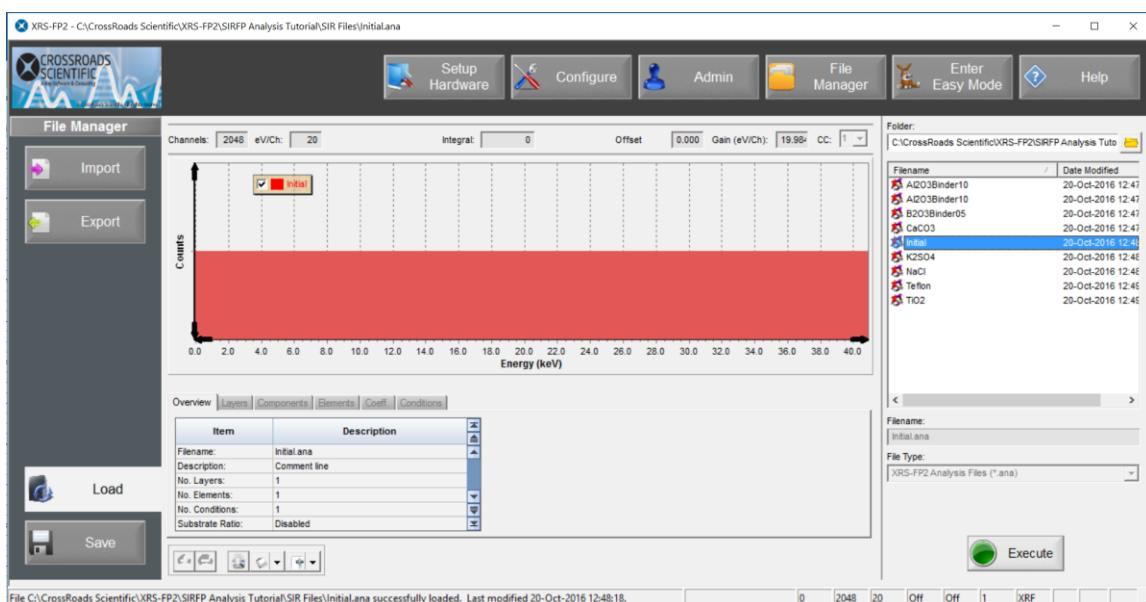

Figure 1. File Manager - Load. Open the SIR template file, e.g. “Initial.ana”.
2. Go to the **File Manager** button in the top ribbon and select the “C:\CrossRoads Scientific\SIR-FP2 Tutorial\SIR Files” folder (or equivalent location), then select the “Initial.ana” file in the R-hand panel (from the SIR Files Folder). Select **Execute** to load this analysis file, which acts as a template for this application. See Figure 1 below.